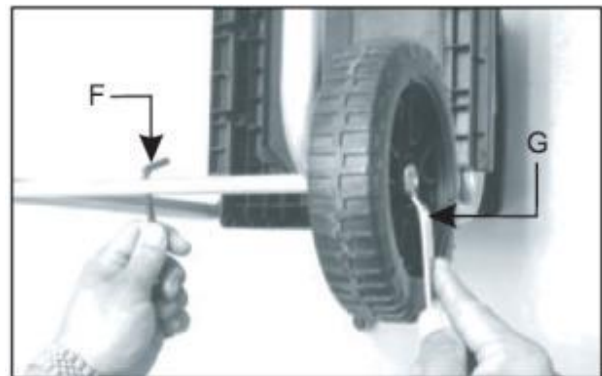

Fig.1D
5. Using the supplied wrench (F) to fix the wheel axle and at the same time firmly lock the nut by using the wrench (G). (Fig.1D)